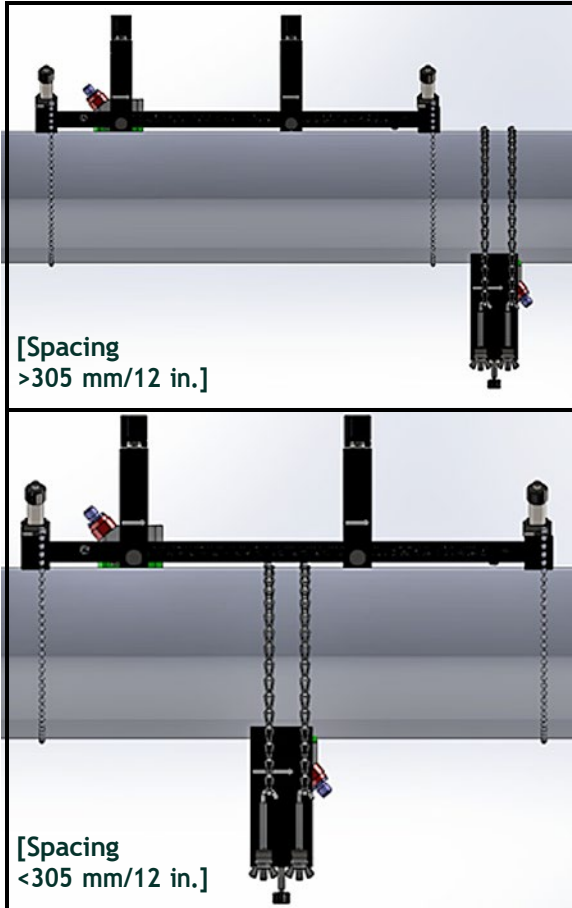

Figure 33: Completed Odd-Traverse Installation (Top View)
9. Tighten the yoke screw until the transducer firmly contacts the pipe. Your completed odd-traverse installation should look like Figure 33 below.